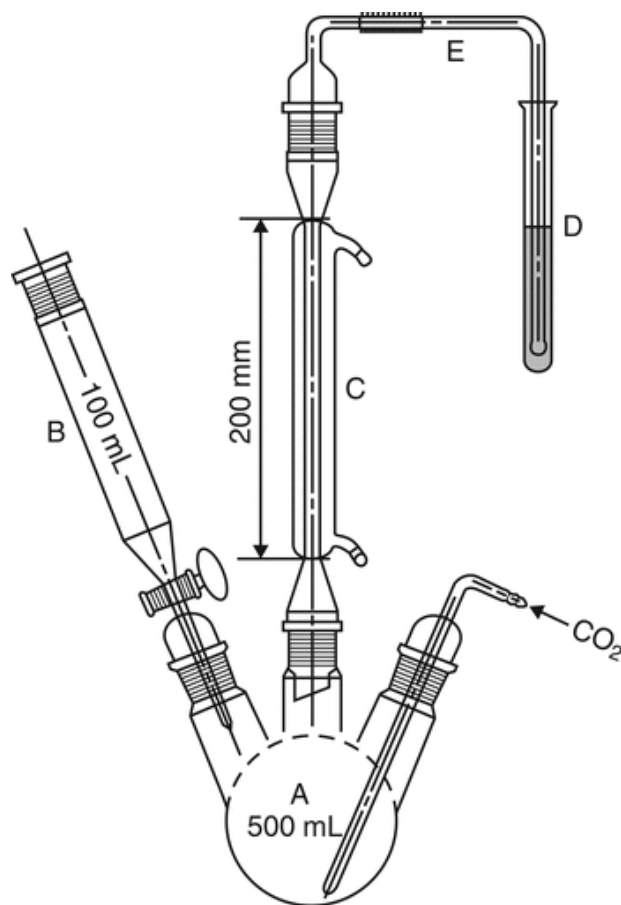

Figure 1. Apparatus for determination of sulfur dioxide.
**Analysis:** Introduce 150 mL of water into the flask (see A in *Figure 1*), and pass carbon dioxide through the whole system for 15 min at a rate of 100 mL/min. To 10 mL of hydrogen peroxide solution [30 g/L of hydrogen peroxide ( $\text{H}_2\text{O}_2$ )] add 0.15 mL of bromophenol blue TS. Add 0.1 M sodium hydroxide until a violet-blue color is obtained, without exceeding the endpoint. Place the solution in the test tube (D). Without interrupting the stream of carbon dioxide, remove the funnel (B), and introduce through the opening into the flask (A) the *Sample* with the aid of 100 mL of water. Add through the funnel 80 mL of diluted hydrochloric acid [73 g/L of hydrogen chloride (HCl)], and boil for 1 h. Open the tap of the funnel, stop the flow of carbon dioxide, and also stop the heating and the cooling water. Transfer the contents of the test tube with the aid of a little water to a 200-mL wide-necked, conical flask. Heat on a water bath for 15 min, and allow to cool. Add 0.1 mL of bromophenol blue TS, and titrate with *Titrant* until the color changes from yellow to violet-blue.